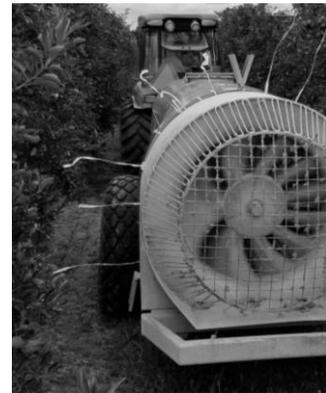

Figure 2. Radial airblast sprayer with flagging
2. Attach a 10-12" inch long strip of flagging tape to each nozzle assembly (Figure 2).